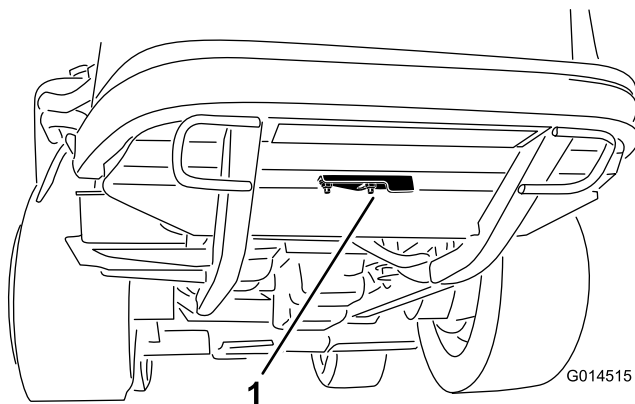

Figure 34
2. Loosen the flange nut securing the clean out cover to the underside of the rear frame (Figure 34). Rotate the cover to the side to expose the clean out hole in the frame.